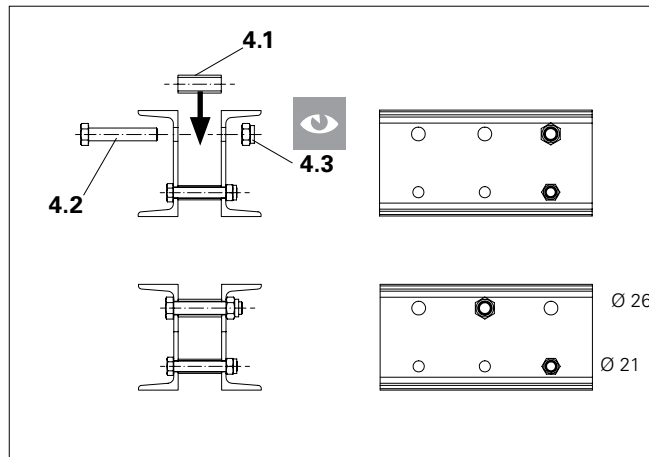

Fig. C4.03
5. Attach self-locking nut M24-8 (SW 36) onto the bolt and tighten. Tightening torque min. 150 Nm. (Fig. C4.03)
(Fig. C4.03)